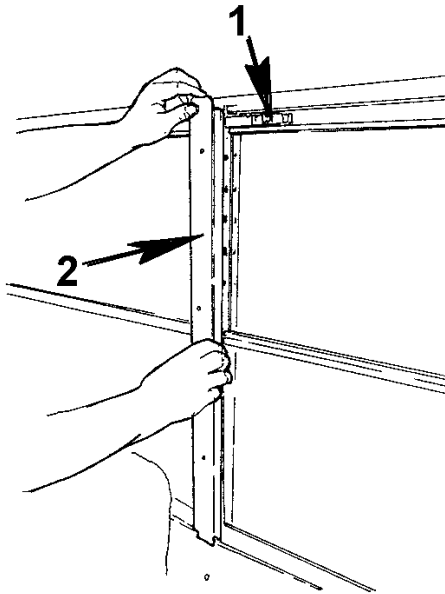

Figure 160 Passenger Window Cover Plate Mounting
- a. Remove the four mounting screws securing the window mounting cover plates each side of the window assembly. (see Figure 160)